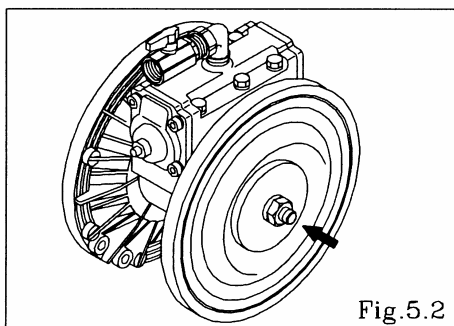

Fig.5.2
- Remove the nuts on both sides of the center rod. [Fig.5.2]